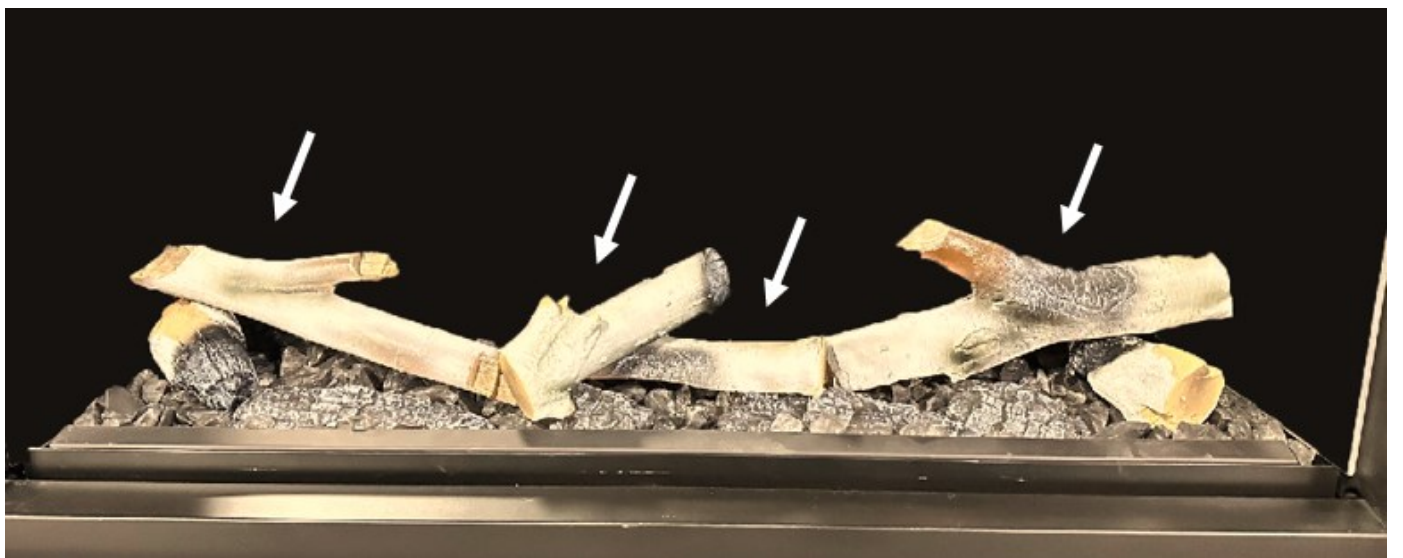

Figure 4.3 - Completed log set.
- Figure 4.3 shows the remaining logs installed. The two larger logs go on the side and two smaller birch logs in the center.